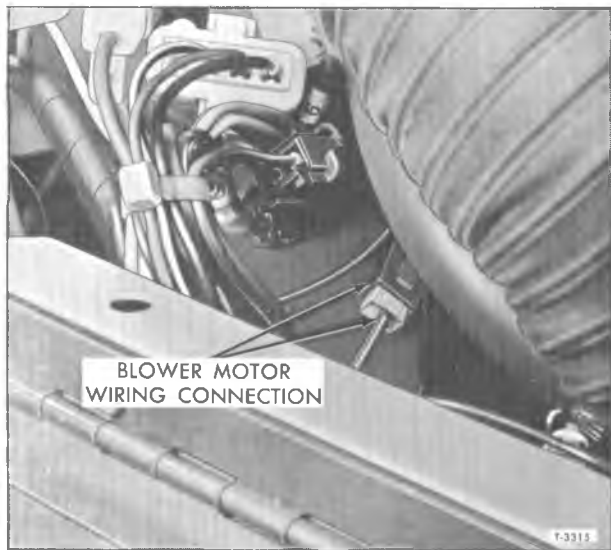

Figure 16—Blower Motor Wiring Connection
2. Pull motor switch lead at quick-disconnect terminal (fig. 16).